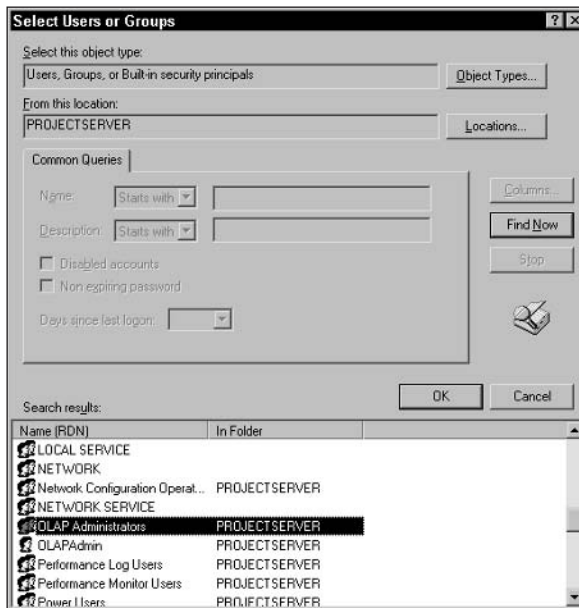

Figure 19-56: Select OLAP Administrators.
5. Click the Advanced button, and then click Find Now. Choose OLAP Administrators from the list that appears, and click OK twice (see Figure 19-56).